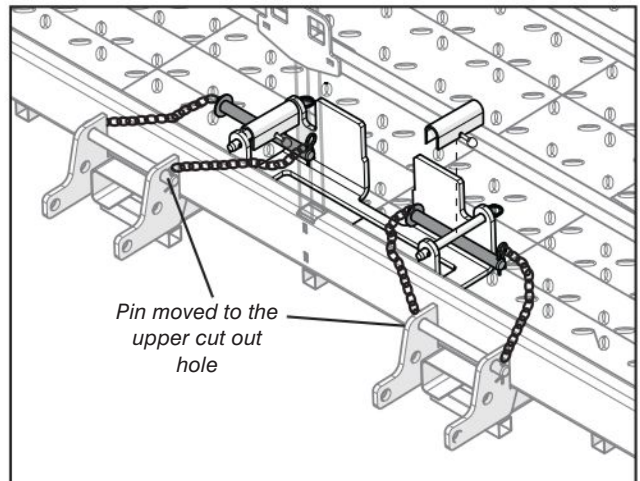

Figure 47 Auxiliary Function Locking Devices
7. Secure the locking device to the Personnel Work Platform as shown in figure 47 when the platform is not in use.